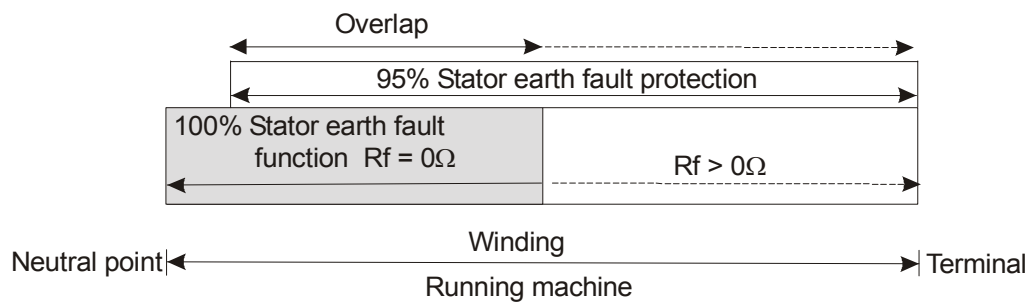

Fig. 1
- The 95% function ( $U >$ ) protects 95% of the generator stator winding from the terminals. This results in an overlap (redundancy) of the two protection functions as seen in Fig. 1.